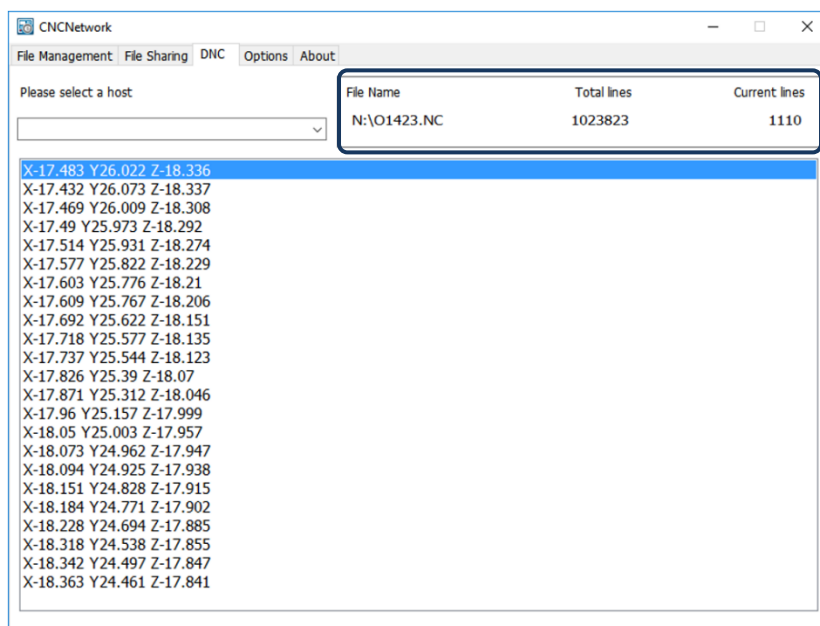

Figure 7.1.6
- (6) The shared file(s) is displayed in the NETWORK folder.
- (7) Set the NC system to AUTO mode, press **CYCLE START**, and the system executes the G-code file by DNC operation. The execution method is the same as that for general files.
- (8) During DNC operation, file information is displayed in the **DNC** screen of CNCNetwork. The information includes the name of the connected host, name of the file undergoing DNC operation, total number of lines, the line number being executed, and file content (the content is scrolled down along with the execution progress, as shown in Figure 7.1.6).